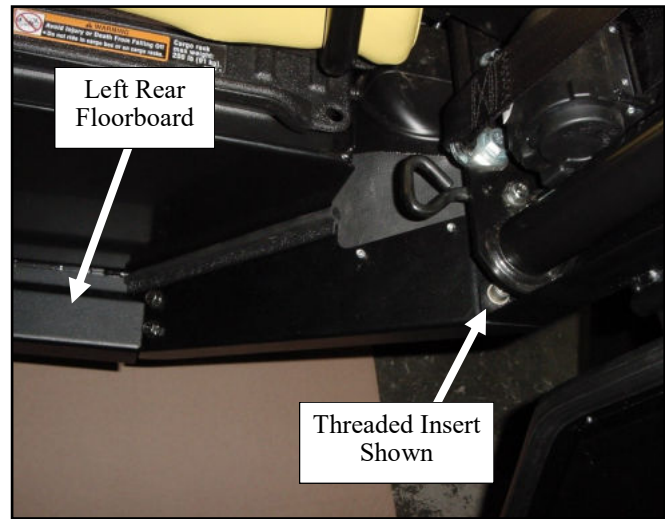

Fig. 11.1 (view of driver's side rear shroud)
11.1 Install the rear driver-side shroud as shown in figure 11.1. Loosely fasten to the rear panel using the hardware listed below. **Do not tighten at this time.**